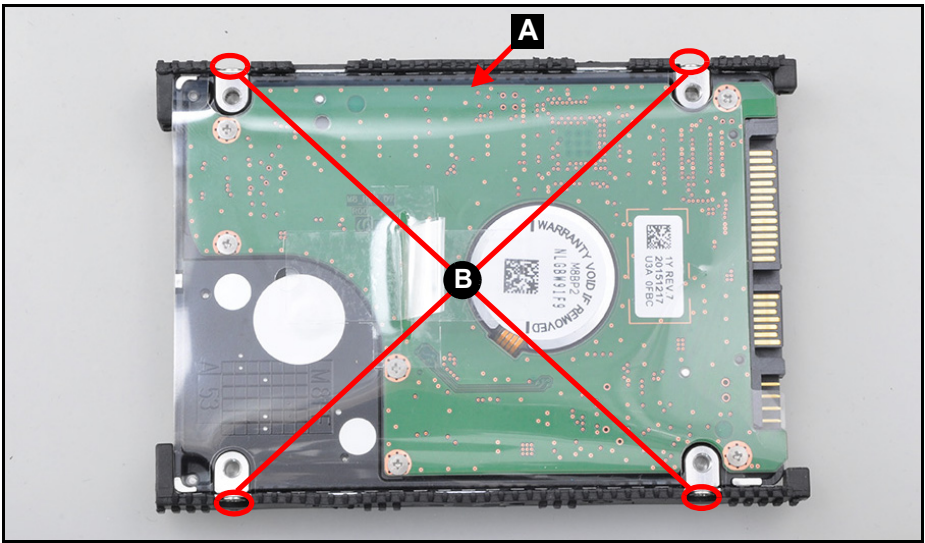

Figure 3-11. HDD Bracket with Mylar Removal
3. Remove four (4) screws (B) from the HDD brackets (A) (Figure 3-11).